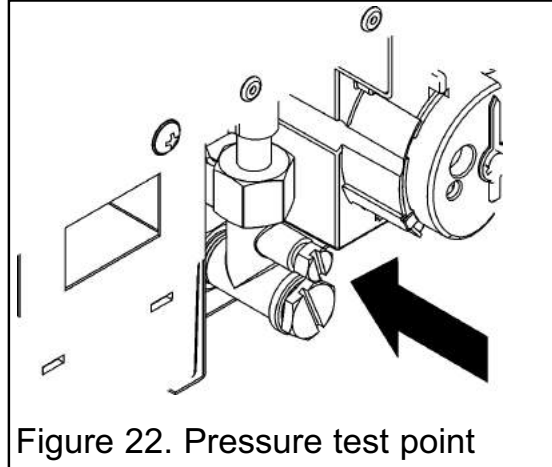

Figure 22. Pressure test point
1. Ensure that the fire is OFF then fit a pressure gauge at the test point. The test point is on the inlet 'T' connector (See figure 22). Turn the fire ON and check the pressure with the appliance alight and set at maximum output.